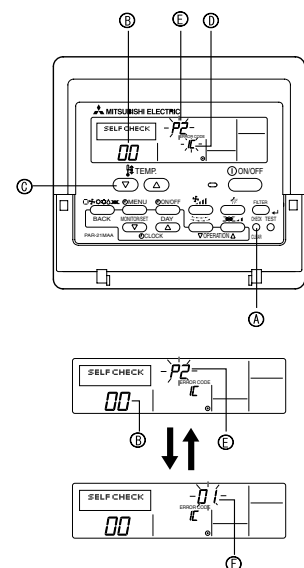

Fig. 7-3
7.3.1. Wired remote controller (Fig. 7-3)